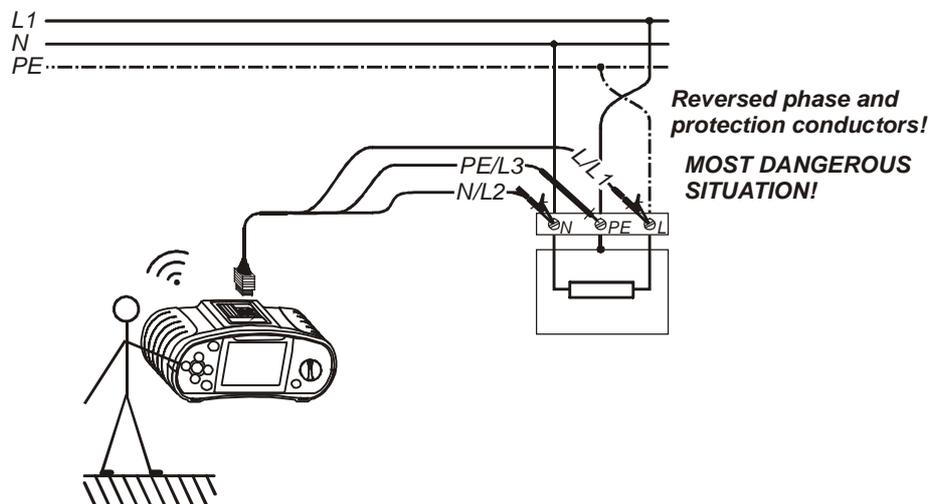

Figure 5.40: Connection of universal test cable to load connection terminals with reversed L and PE conductors
**Step 2** Follow the connection diagram shown in figure 5.40 to perform phase-neutral or phase-phase line impedance measurement.